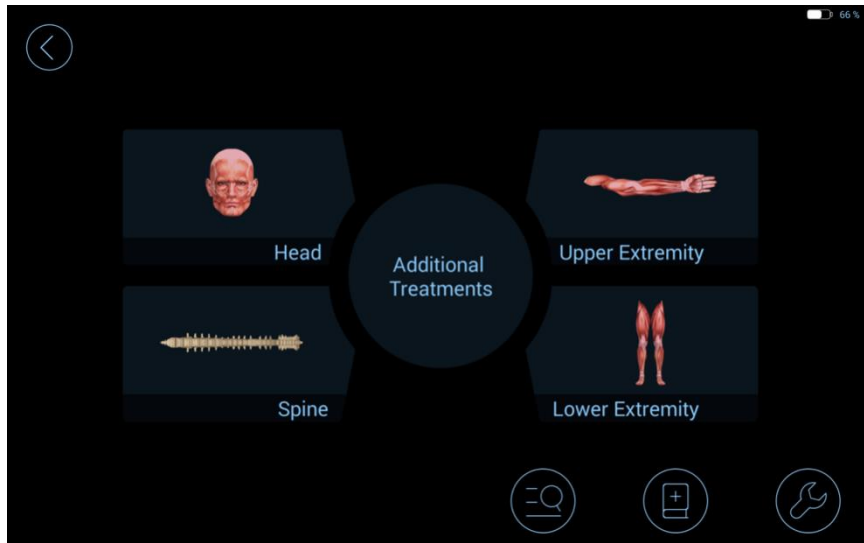
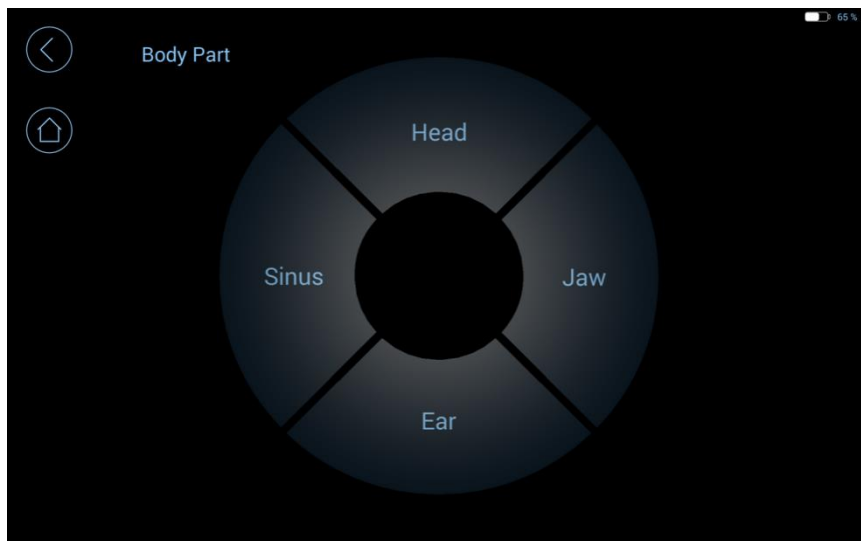

Figure 5. Home page
Figure 6. Body Part (Head example) selection interface
4. Enter the home page interface to enter the secure PIN code (Figure 5) and select the treatment plan (Figure 6).
5. After selecting a body region, enter the body part interface (Figure 6).